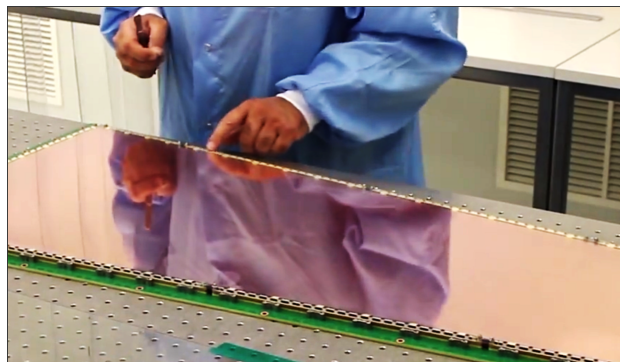

Figure 94: Removing the guiding pins (2).
Step 9: Rub your finger along the frame to make sure all the pins were removed before moving to the next step (Fig. 94).